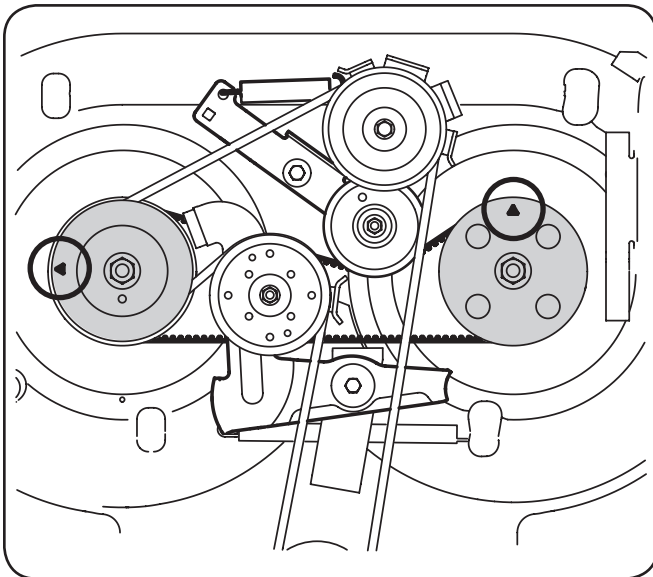

Figure 6-6
1. The top of each spindle pulley is marked with an arrow. See Fig. 6-6. The arrows should be perpendicular (at a 90° angle) to each other.